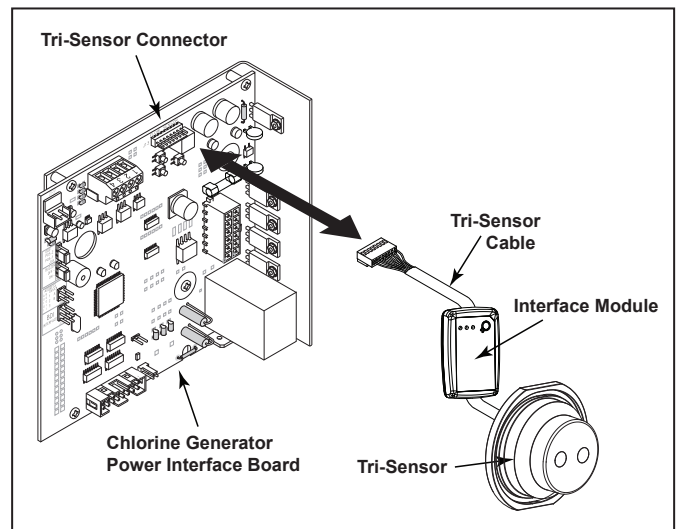
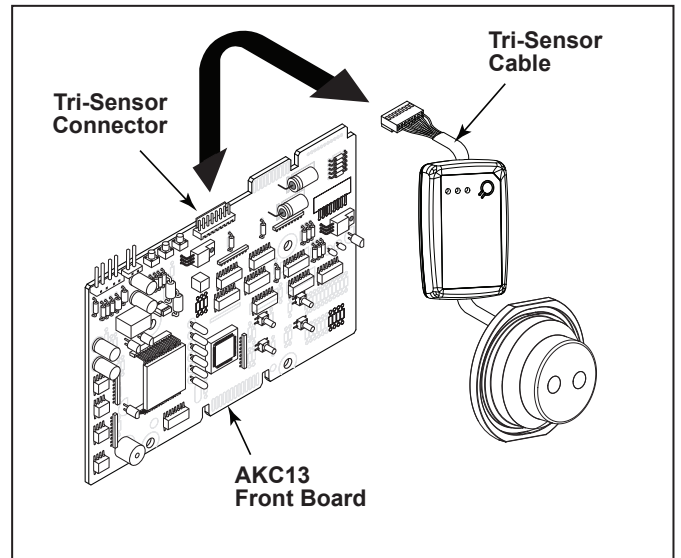

Figure 4. Installation on a late generation Power Interface Board. For installation with an AKC13 Front Board, see Figure 5.
Figure 5. Tri-Sensor installation on an AKC13 Front Board
5. Connect the female connector from the Tri-Sensor into the mating connector on the power interface board (Figure 4) or AKC Front Board (Figure 5).
3. For all other firmwares and AKC13 Front Boards (See Figure 5)"PGM B" should be lit before proceeding to section D: CONFIRMATION OPERATION. If "PGM A" is lit, proceed to step 4.